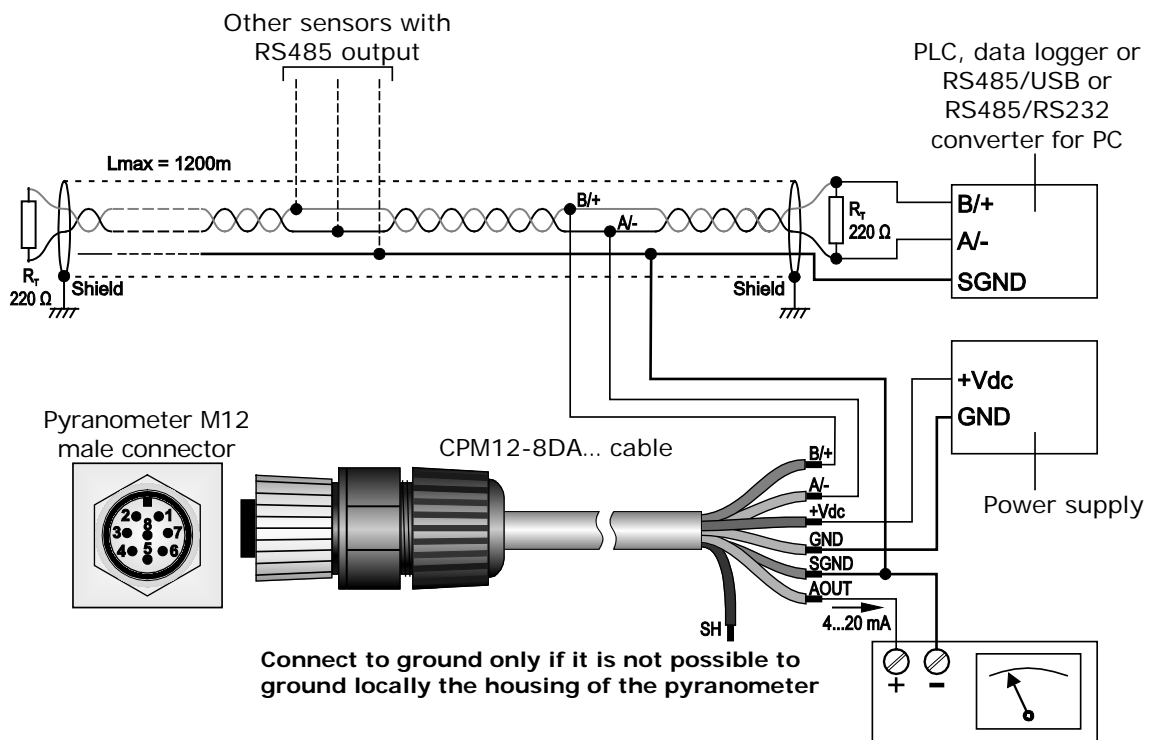

Fig. 4.6: LPPYRA03ACS[4] connections
- One **4...20 mA** output, requiring **10...30 Vdc** external power supply. It is to be connected to a power supply and an instrument with 4...20 mA input as shown in fig. 4.6. The load resistance of the instrument reading the signal must be **$\leq 500 \Omega$** .
- One **RS485 Modbus-RTU** output, requiring **5...30 Vdc** external power supply. It is to be connected to a power supply and to a PLC, a data logger or a RS485/USB or RS485/RS232 converter for PC as shown in fig. 4.6. The RS485 output is not isolated.